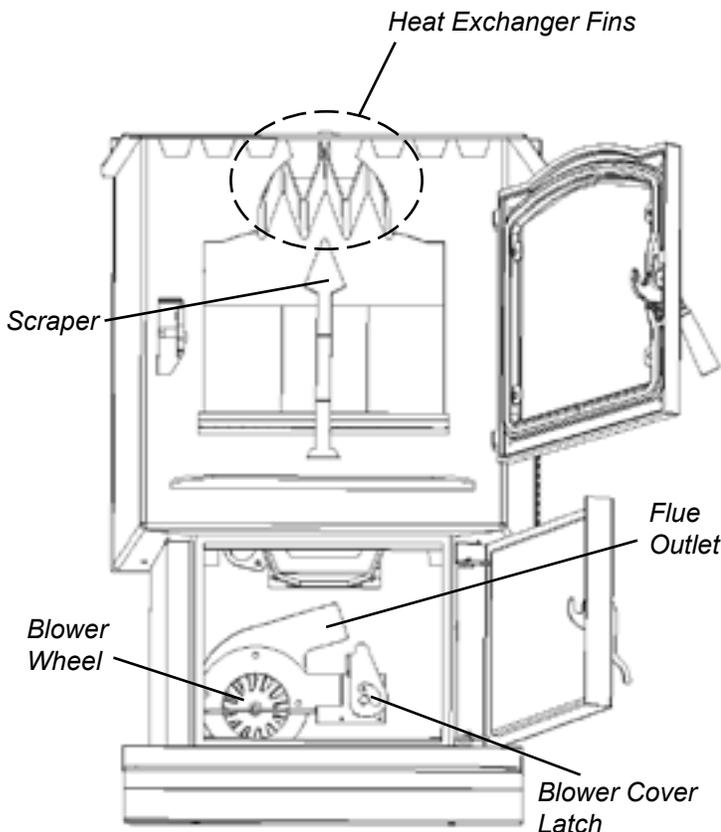

Fig 27
2. Clean heat exchanger with scraper as shown in fig 27.
7. Remove combustion blower cover by turning the blower cover latch vertical, see Fig.26. Sliding the cover out of the slot on the left. This will expose the combustion blower wheel and flue outlet, Fig.27.
9. Use a brush to clean the flue, being careful not to damage the ESP probe, see Fig. 30. The flue goes straight through into the vent pipe (Fig.27) therefore, the vent pipe can also be cleaned, to some extent, through the flue outlet.